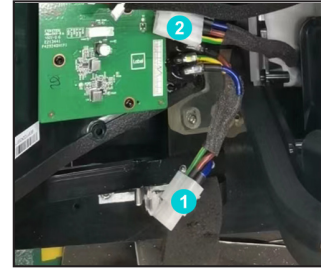

Figure 11. Detach the AC cables
1.6 Detach the AC cables. See Figure 11.